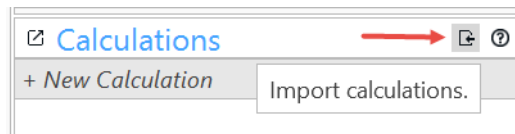

Figure 8 Import Calculations in SYNCHROWAVE Event
- Step 3. Select the “Import calculations” icon (shown in *Figure 8*) at the top right of the custom calculations window. Open the **AG2020-28** folder. Select the appropriate calculations file based on your relay type. The options are **AG2020-28 SEL-387.txt**, **AG2020-28 SEL-487E.txt**, or **AG2020-28 SEL-787.txt**. Then select **Open**.